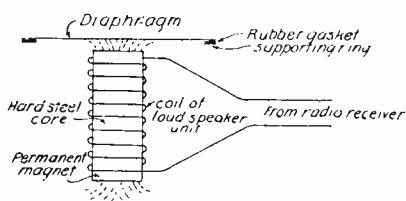
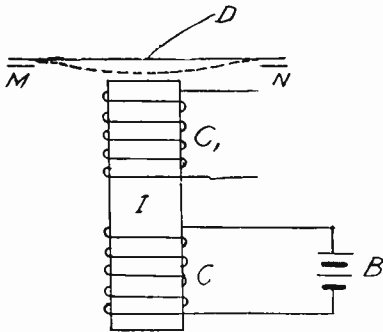

Fig. 16
Fig. 19
Suppose we look at Fig. 16 to see what it is all about. In this illustration we have shown a very simple form of a loud-speaker unit. First, we have a permanent magnet. In the case shown, this has a simple cylindrical shape, but in many units the permanent magnet has a horse-shoe shape. Above this permanent magnet is an iron diaphragm, which is supported on a ring, which is generally backed up with a rubber gasket or washer.
A few moments ago we said that in order to make the diaphragm vibrate we had to make the magnetic field stronger and weaker in regular succession. There is a simple way to do this, as you may have already guessed by looking at the coil of wire in Figs. 16 and 17. The coil is wound around the permanent magnet. In manufacturing, these coils are first wound on small bobbins of fiber or of bakelite, which are then slipped onto the permanent magnet.
Many loud-speaker units are made this way, and all headphones are made this way. There is another way in which loud-speaker units are often made, however, which we will now study. In one of your previous lessons you learned that when a coil of wire carried a current, the coil could act just like a magnet. In other words, the current flowing in the coil establishes a magnetic field, which can attract iron just like a permanent magnet. It should be possible therefore to replace the permanent magnet shown in Fig. 16, by an *electromagnet*, that is, a coil carrying an electric current.
This arrangement is shown in Fig. 19. At the bottom of this figure is shown the magnetizing coil (C), or electromagnet, which takes the place of the permanent magnet of Fig. 16. But you must know that this coil is wound on a soft iron core, (I), whereas a permanent magnet is made of hard steel.
The reason for this is that hard steel keeps its magnetism a long time, while soft iron does not. In the loud-speaker unit of Fig. 19 we do not want the iron core to keep its magnetism, but to have it magnetized only when the current is flowing in the coils. We shall learn the reason for this later on. There are certain advantages which this type of unit has over the other which we shall also study at the proper time.
It will be well at this point to obtain a clear understanding of the various terms applied to different types of loud-speakers. In the first place, we must always have a steady magnetic field in the unit. This may be furnished either by a permanent magnet of steel or by an electromagnet such as shown at C, in Fig. 19.